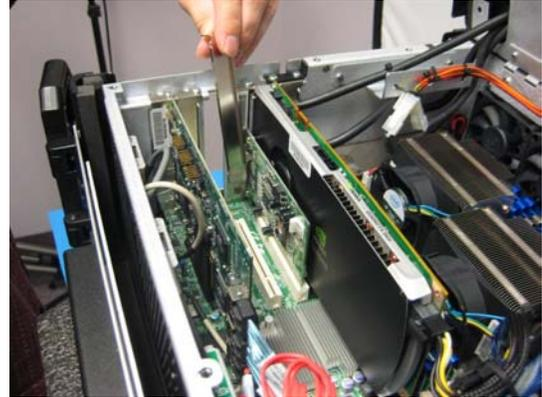

Figure 3-49
- 3) Gently pull out the blanking plate (or old card) as shown in Figure 3-49.